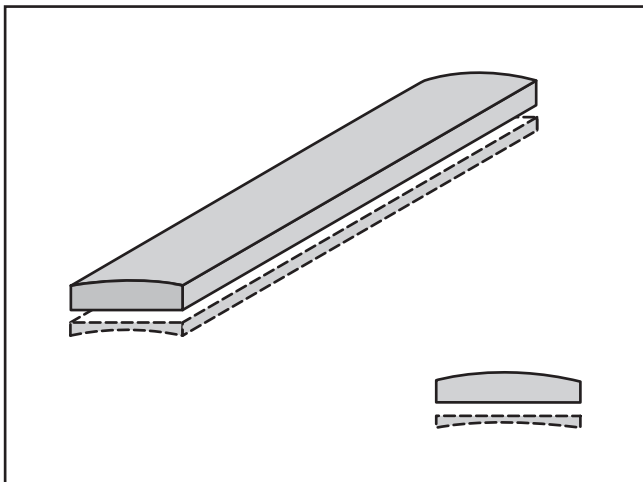

Figure 33. Illustration of surface planing results.
5. If your workpiece is cupped (warped), place the concave side (**Figure 33**) face down on the surface of the infeed table.